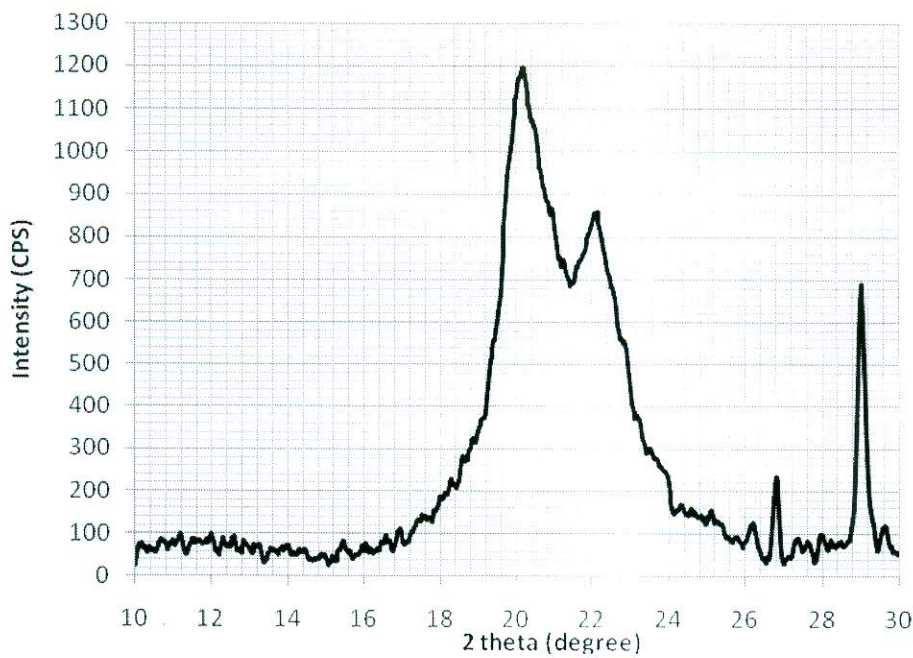

Figure 1
- [b] Figure 1 shows XRD pattern of Chitosan and SiO₂ polymer composite. Calculate the percentage of crystallinity of the sample.